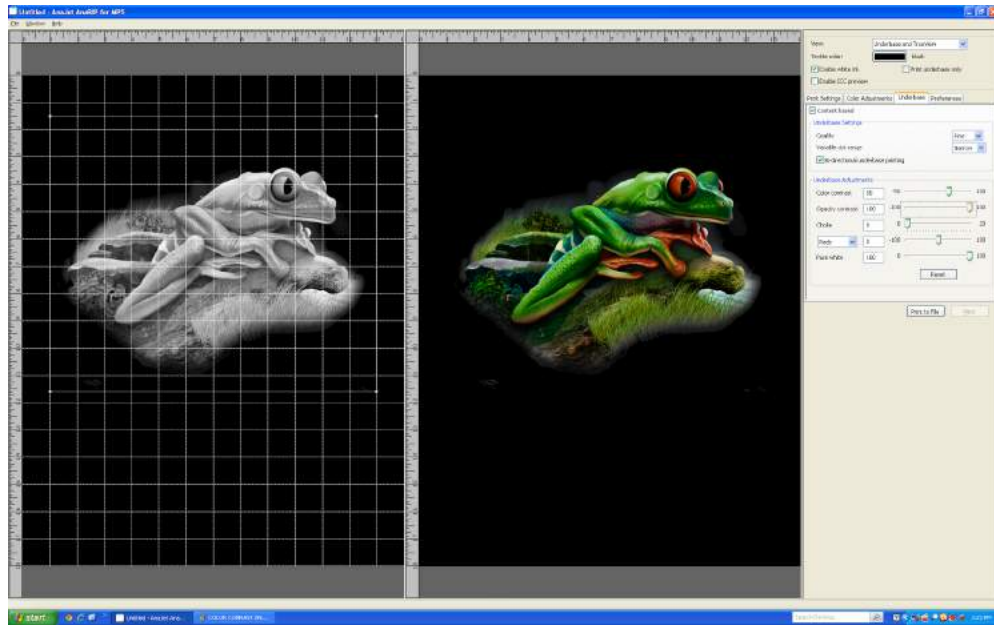

Figure 6.5h: Opacity Contrast Up
- **Opacity Contrast** is only active when your image has a soft or semi-transparent edge or the image has semi-transparent colors in it. Moving the slider bar to the left will reduce the amount of white underbase beneath these area to help create a smoother blend. (Figure 6.5h and Figure 6.5i)